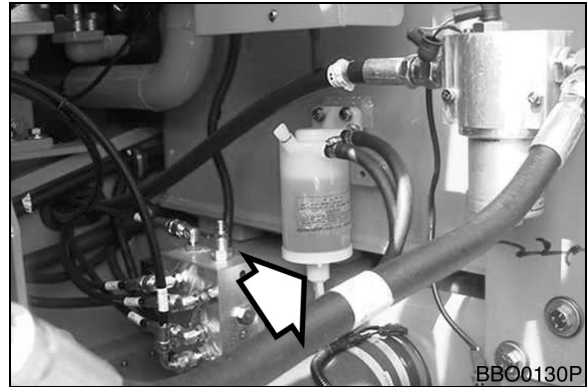

Figure 20
3. If red ring in bowl reaches level line, loosen plug (Figure 20) at bottom of body and drain water into a suitable container.
4. Tighten plug (Figure 20) and prime fuel system. (See page 4-38)